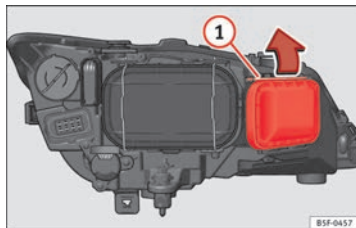

Fig. 187 Turn signal bulb.
- Move the loop ⇒ Fig. 187 ① in the direction of the arrow and remove the cover.